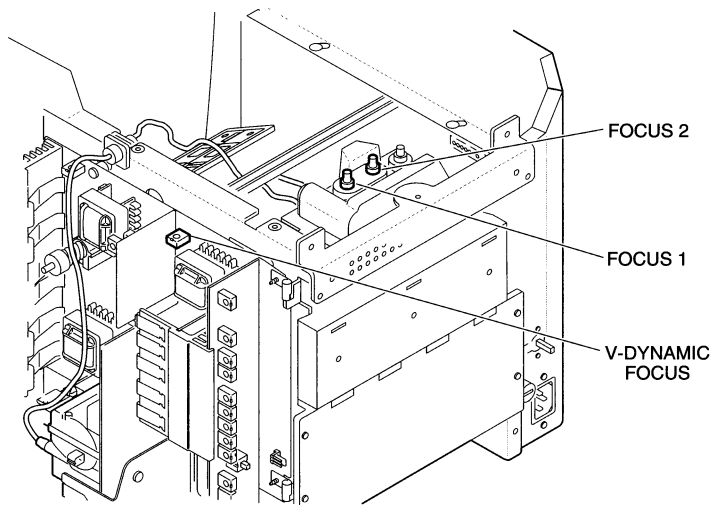

Figure 17 Focus Adjustment Controls
2. FIGURE 17. Turn the V-DYNAMIC FOCUS (R155) control on the main board clockwise to its limit.
3. FIGURE 17. Adjust the FOCUS2 control on the high-voltage block until the center vertical line is as small as possible.
4. FIGURE 17. Adjust the FOCUS1 control on the high-voltage block until the center horizontal line is as small as possible.
5. FIGURE 17. Check the horizontal lines at the top and bottom of the screen for precise focus. If the horizontal lines are not precisely focused, back off (turn counterclockwise) the V-DYNAMIC FOCUS (R155) control on the main board until the horizontal lines are as small as possible.
7. FIGURE 17. Check the corners of the percent signs pattern for precise focus. If parts of the screen are not precisely focused, adjust the FOCUS1 control for the best overall focus.